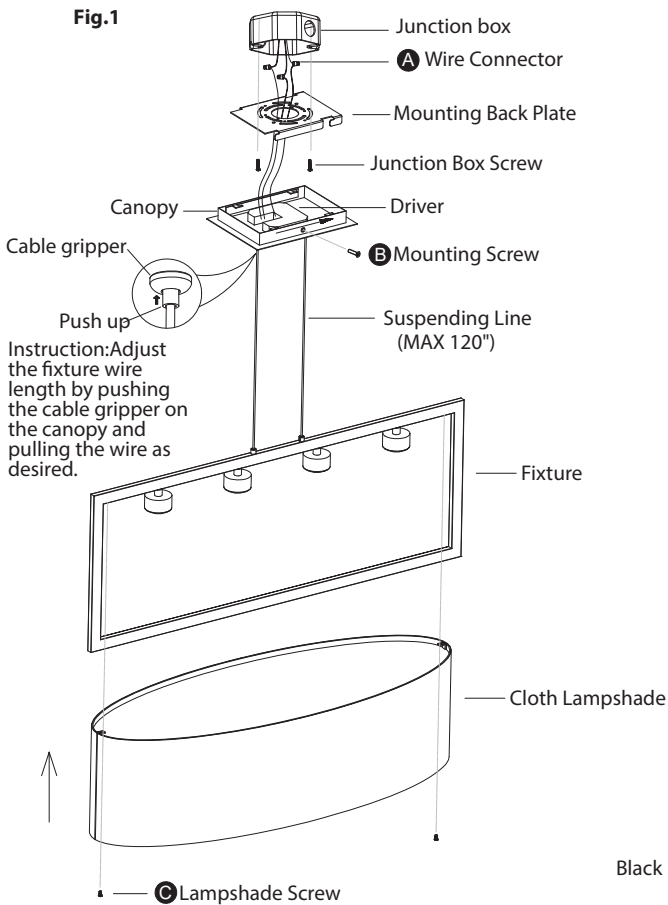

Fig.2 Wiring
**CONNECTING THE WIRES (Fig. 2 / Fig. 3)**
9. Connect the driver's input wires to junction box wires as shown in Fig. 2, make sure that all wire connectors(A) are secured. If your outlet box has a green or bare copper ground wire, connect the fixture's ground wire to it. Otherwise, connect the fixture's ground wire directly to the back plate using the screw provided. After wires are connected, tuck them carefully inside the junction box.
10. Secure the fixture to the mounting back plate using the mounting screw (B).